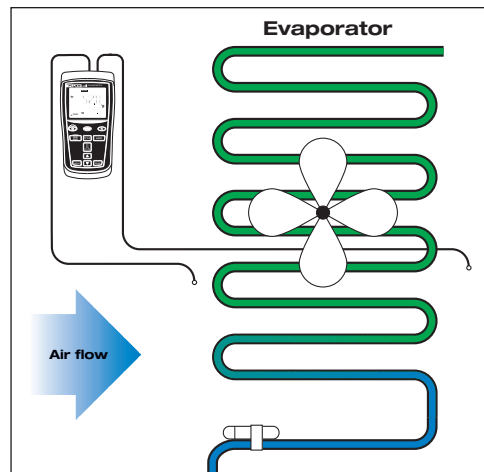

Figure 3. ΔT across coils. Record evaporator temperature differences as well as minimum/maximum temperatures with a digital thermometer.
3. Check for insufficient airflows across the evaporator using a digital thermometer. (see figure 3) Place a bead thermocouple on the discharge side of the coil and on the return side of the coil. Record the temperature difference on the air conditioning unit. Expect about 18-22 °F (10-12 °C) temperature difference. On refrigeration units expect about 10-15 °F (5-8.5 °C) temperature difference.